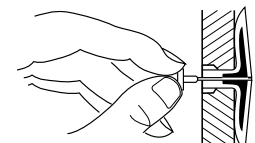

Figure 12 - Popping Open Anchor Wings for Thin Walls
15. For thin walls (1/2" or less), insert red key into wall anchor. Push red key to "pop" open anchor wings. See Figure 12. **IMPORTANT:** Do not hammer key! For thick walls (over 1/2" thick), do not pop open wings.